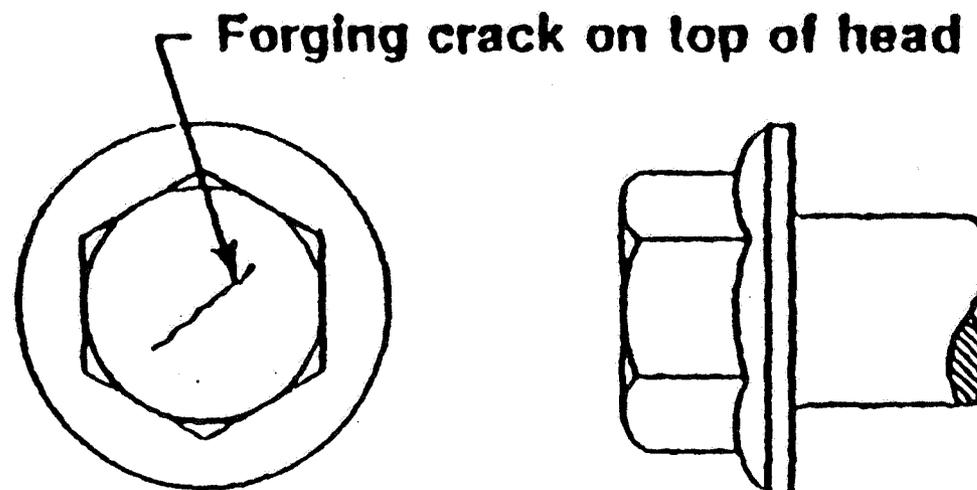

Figure 81 - Typical Forging Cracks
- ▶ No crack shall have a width or depth exceeding 0.04 x the basic major thread diameter. (See Figure 81.)